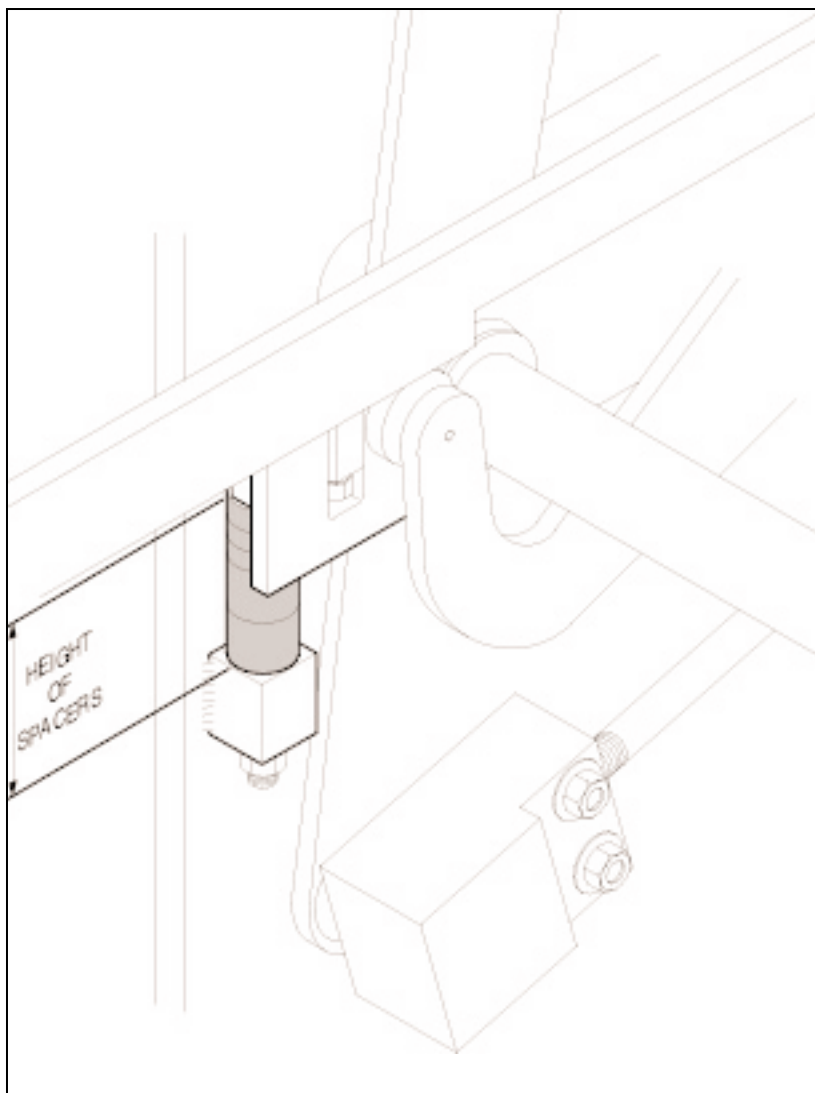

Figure 4.55 MEASURING COLUMN OF SPACERS
- 4.4.16 Measure the column of spacers supporting the pallet feeder assembly: if column is **8 3/4" [222mm]** high, go to step 4.4.27. If not, go to step 4.4.18 (see figure 4.55).